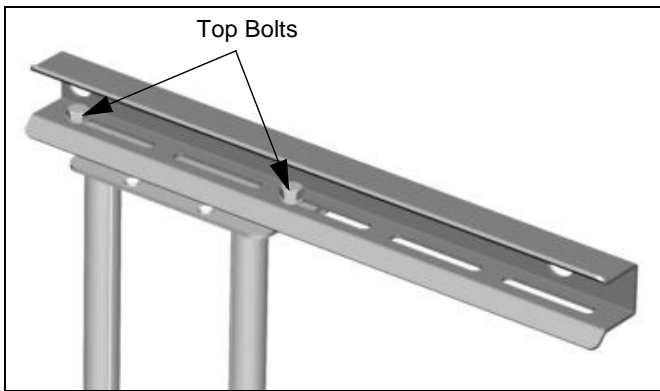

Figure 12
- Left of Center (See Figure 12).